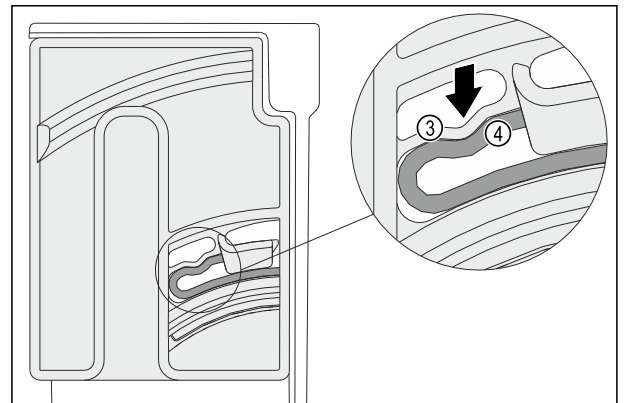

Fig. 117
- ▶ The elastic element Fig. 117 (3) of the turning unit audibly engages in the round shape of the rib Fig. 117 (4).